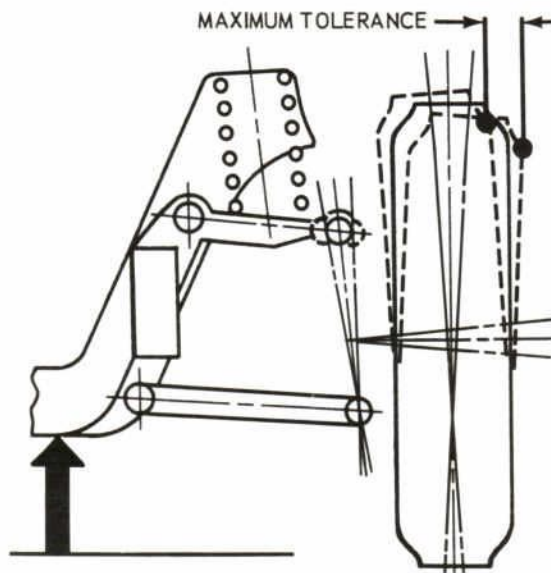

Figure 6—Measuring Upper Ball Joint Radial Play
1. Raise the car on a frame contact hoist or by floor jacks placed beneath the underbody until the wheel falls to the full down position as shown in Figure 6. This will unload the upper ball joint.